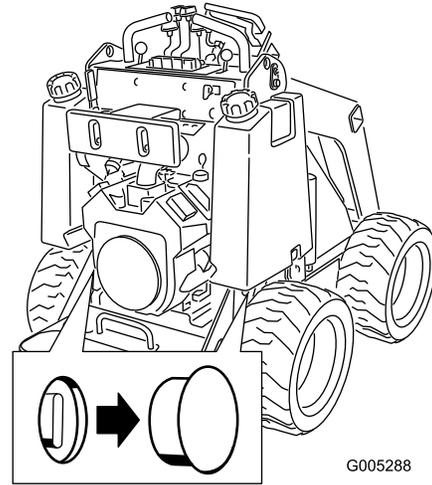

Figure 11
2. Remove the plug covering each tow valve (Figure 11).